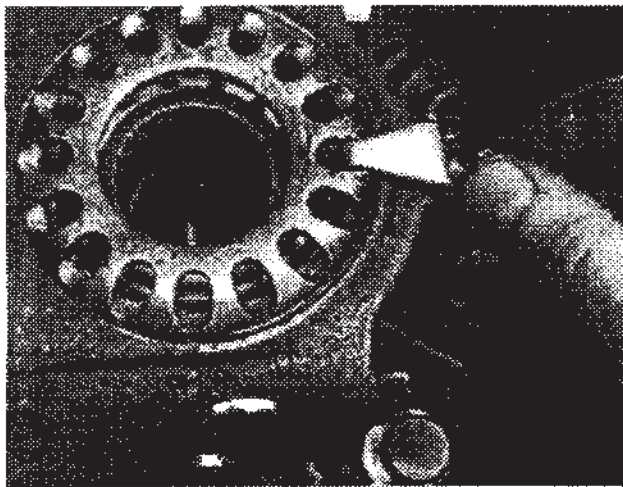

Figure 14
5. Install the correctly-marked cap. Use the bolts as guides by turning them in two threads or so and then sliding the cap down to meet the case. Be sure that the cap threads fit into those in the adjuster. Do not force anything. The cap should slide down very close to the carrier surface. Tighten the bolts until they are snug (see **Figure 14**).
10. Install the adjuster locks and torque the bolts. Be sure that they are located in the marked holes (as shown in **Figure 14**).